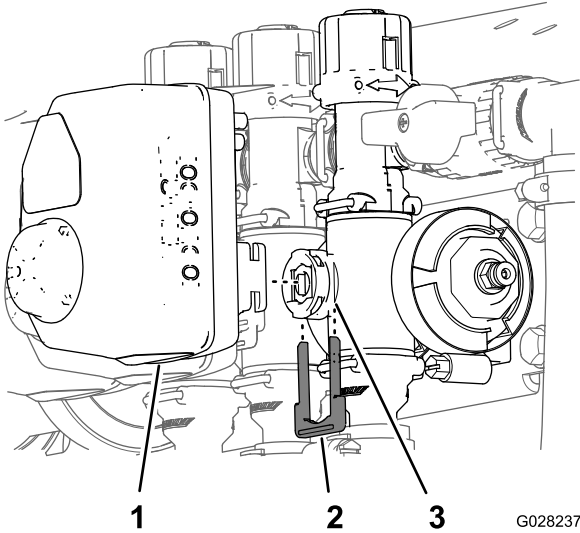

Figure 3
- Remove the retainer that secures the a actuator to the manifold valve for the section valve or agitation valve (Figure 3).